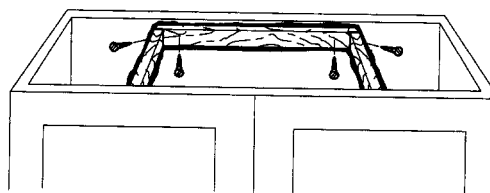

Figure 13
- Construct a plywood frame, allowing adequate clearance between the strips running front to back. These will support the sink (see Figure 13). See recommended clearances on the templates.
- Firmly attach the frame to the cabinet interior with screws (see Figure 13).